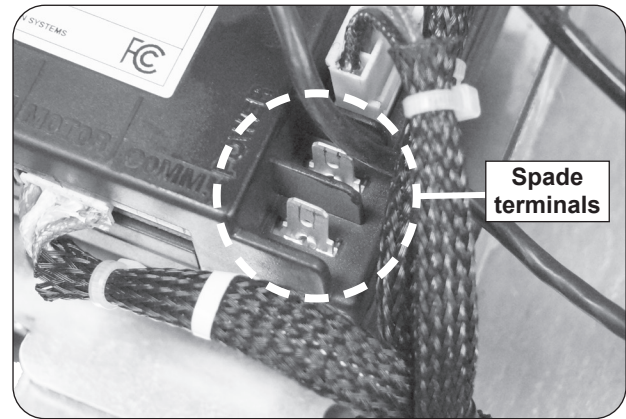
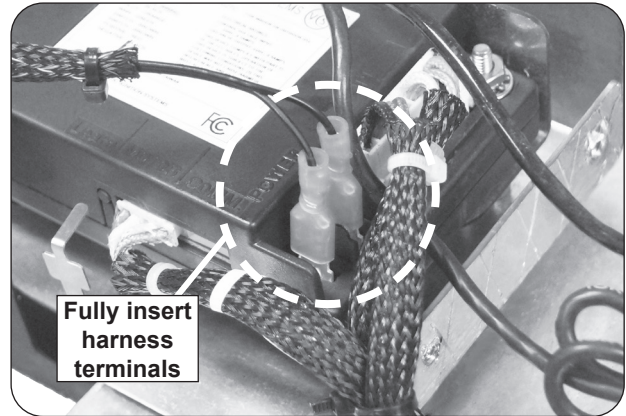

Fig. 2-1 Locate terminals on module
Fig. 2-2 Connect adapter harness
1. Locate the two spade terminals on the control module (see Fig. 2-1), and connect the adapter-harness terminals to them (see Fig. 2-2).